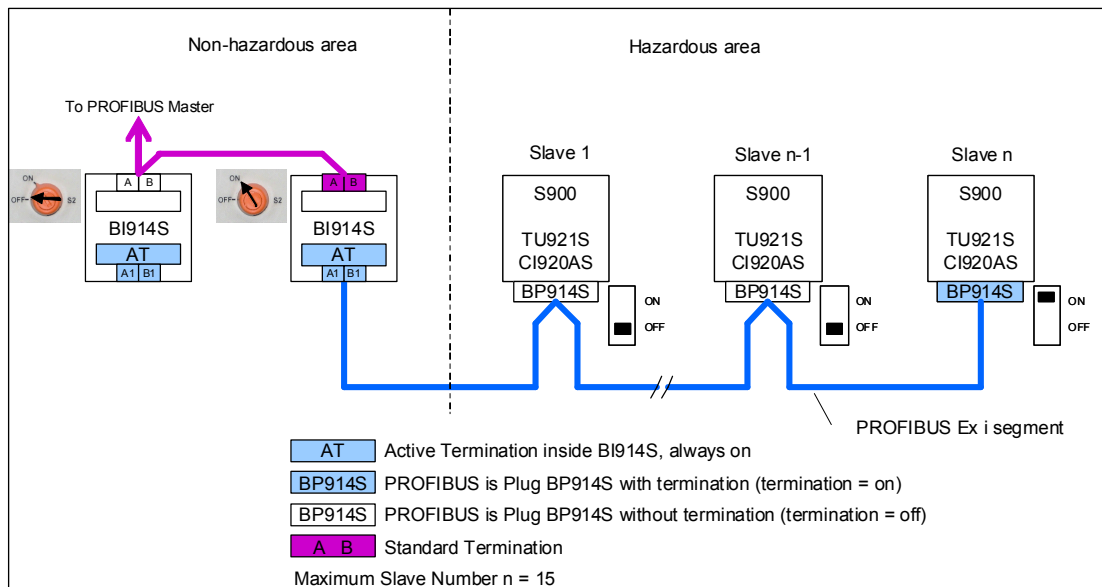

Figure 1: S900 IO installation according to PROFIBUS RS485-IS
Both S900 communication interfaces and network components are replaced. Figure 1 shows the PROFIBUS configuration according to PROFIBUS International Guideline RS485-IS for S900 after updating.
- (1) Check the firmware version of the communication interfaces. All 'old' communication interfaces CI920* must correspond to version 1.5.9, if a seamless update is required.
- (2) Check the availability of redundancy. All slaves of the active and passive PROFIBUS line of the master must be available. No such diagnostic message must be pending.
- (3) Disconnect the PROFIBUS connector of one line (preferably line B or 2) from the master. Slaves that have been active on this PROFIBUS line are now switched over to the redundant intact PROFIBUS line.
- (4) Uninstall / disconnect passive communication interfaces CI920* of all S900 stations of the affected segment. The passive communication interface can be identified by a not lighted PB LED.
- (5) Switch off the PROFIBUS network of the passive line by cutting off the power supply for PROFIBUS isolating repeaters (e.g.: BI913S).
- (6) Replace PROFIBUS connector BP910S of passive line with PROFIBUS connector BP914S. Configure the termination according to the position in the intrinsically safe segment (see Figure 1). Plug the connection again to the Termination Unit (TU921*) and fix the screws.
- (7) Replace the PROFIBUS isolating repeater: